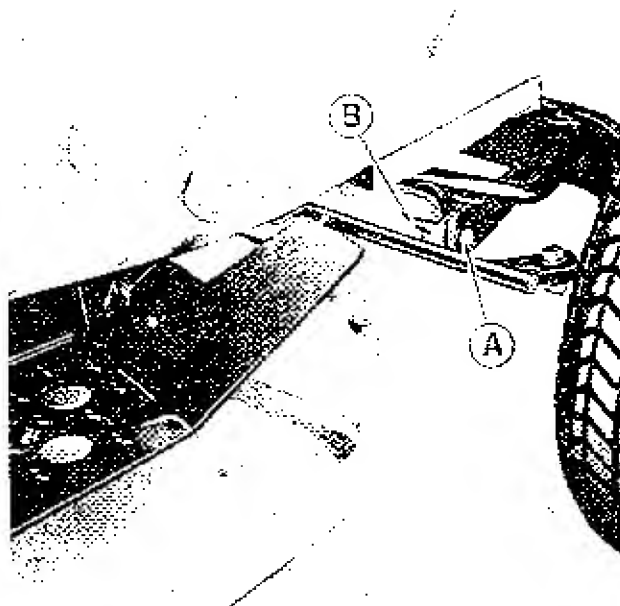

Figure 3. Mower attached to tractor front axle.
5. See figure 3. The mower is well enough balanced in this position so one person can easily install the pins (A) to attach the hitch assembly of the mower to the tractor front axle. This is most easily done by installing the left pin and spring clip first, then installing the right pin (A) and spring clip (B) shown in figure 3.
5. See figure 3. Remove the spring clips (B) and two pins (A) to unfasten the mower hitch from the tractor front axle.
A light coating of grease or SAE 30 weight oil should also be placed on the mower mounting pins, (Figure 3, item A) and all mower pivot points to reduce wear.